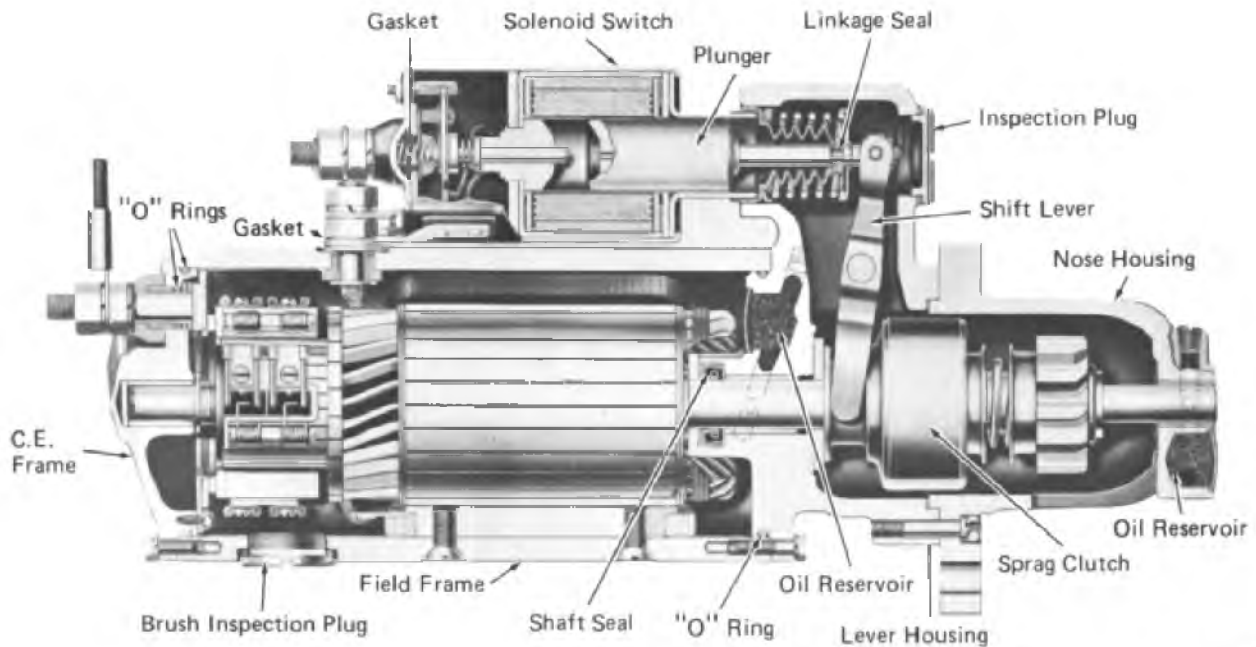

Fig. 14-4 - Typical Electric Starting Motor, Cross-Section
1. Disconnect motor terminal lead from solenoid terminal, Fig. 14-4.
1. Lubricate armature bearings in commutator end frame, shift lever housing, and nose housing with SAE No. 10 oil, Fig. 14-4.